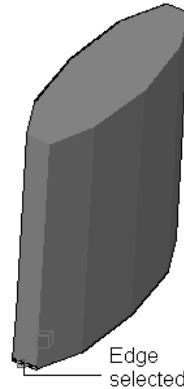

Figure 29-54 Edge selected to be moved
3. Press CTRL and select the required edge, as shown in Figure 29-54; the move gizmo is displayed by default.